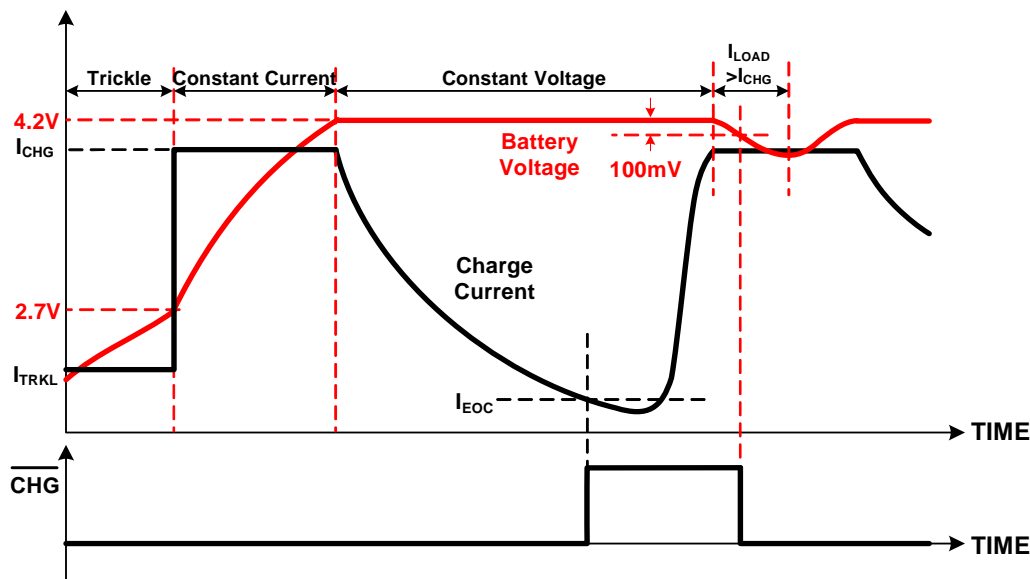

Figure 27. Charge Profile
The 34675 uses the standard charge profile with trickle, constant-current (CC), and constant-voltage (CV) charge modes, as shown in Figure 27. Both the CC and the CV charge modes are also called fast-charge mode. When the input voltage rises above an internal power-on-reset threshold, the $\overline{\text{PPR}}$ pin outputs a low voltage to indicate the power-supply presence. The charger starts with the trickle-charge mode until the battery voltage is above 2.7V. The $\overline{\text{CHG}}$ pin outputs logic low voltage at the beginning of the trickle-charge mode. If the battery voltage is unable to rise due to a battery failure, charging will remain in the trickle-charge mode. When the battery voltage reaches the 2.7V threshold, the 34675 softly changes to the CC mode. The soft transition minimizes the input-voltage drop and reduces the requirement of the input decoupling capacitance. When the battery voltage reaches 4.2V, the 34675 enters the CV mode and regulates the output voltage at 4.2V. The charge current decreases gradually in the CV mode. When the current drops to the EOC current threshold, the 34675 outputs logic high level at the $\overline{\text{CHG}}$ pin to indicate that the charging is completed.